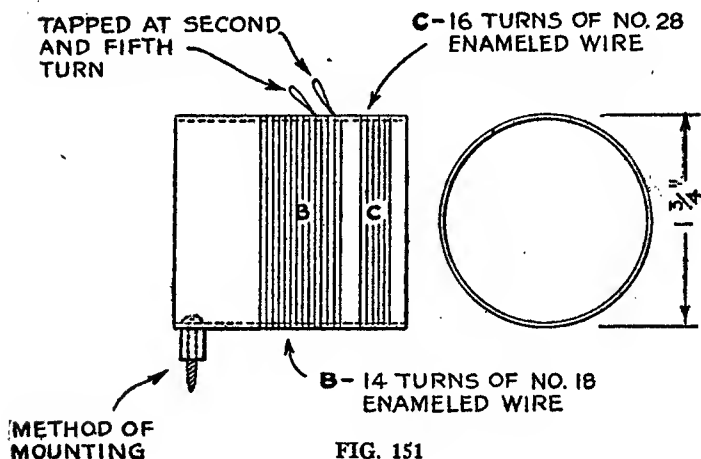

FIG. 151
B.—Oscillator coil, fourteen turns of No. 18 enameled or cotton-covered wire on a three-inch form tapped at the second and fifth turns (see Fig. 151).
C.—Coupling coil, mounted on same form as coil B and one eighth inch from it, sixteen turns of No. 28 enameled or cotton-covered wire (see Fig. 151).